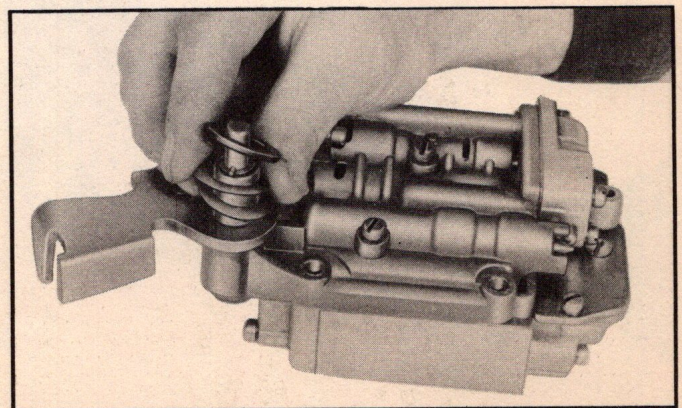

Fig. 174—Removing Rubber Seal and Seal Washers
2. Remove manual shaft rubber seal and outer and inner manual shaft seal washers from shaft (Fig. 174).